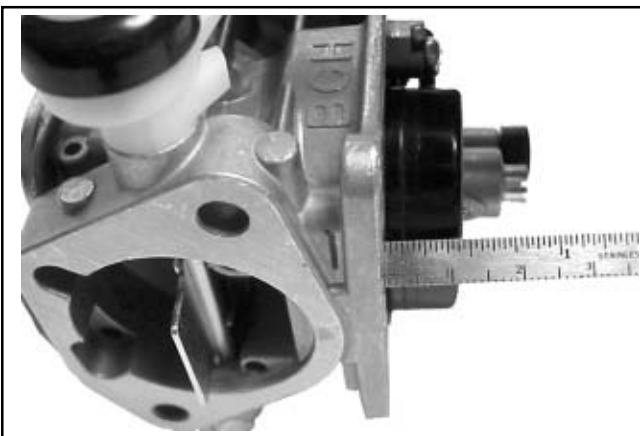

Figure 5-12. Checking Float Height.
7. The correct float height adjustment is **12.0 mm (0.472 in.)** measured from the float bottom to the body of the carburetor. See Figure 5-12. Adjust the float height by carefully bending the metal tang of the float.